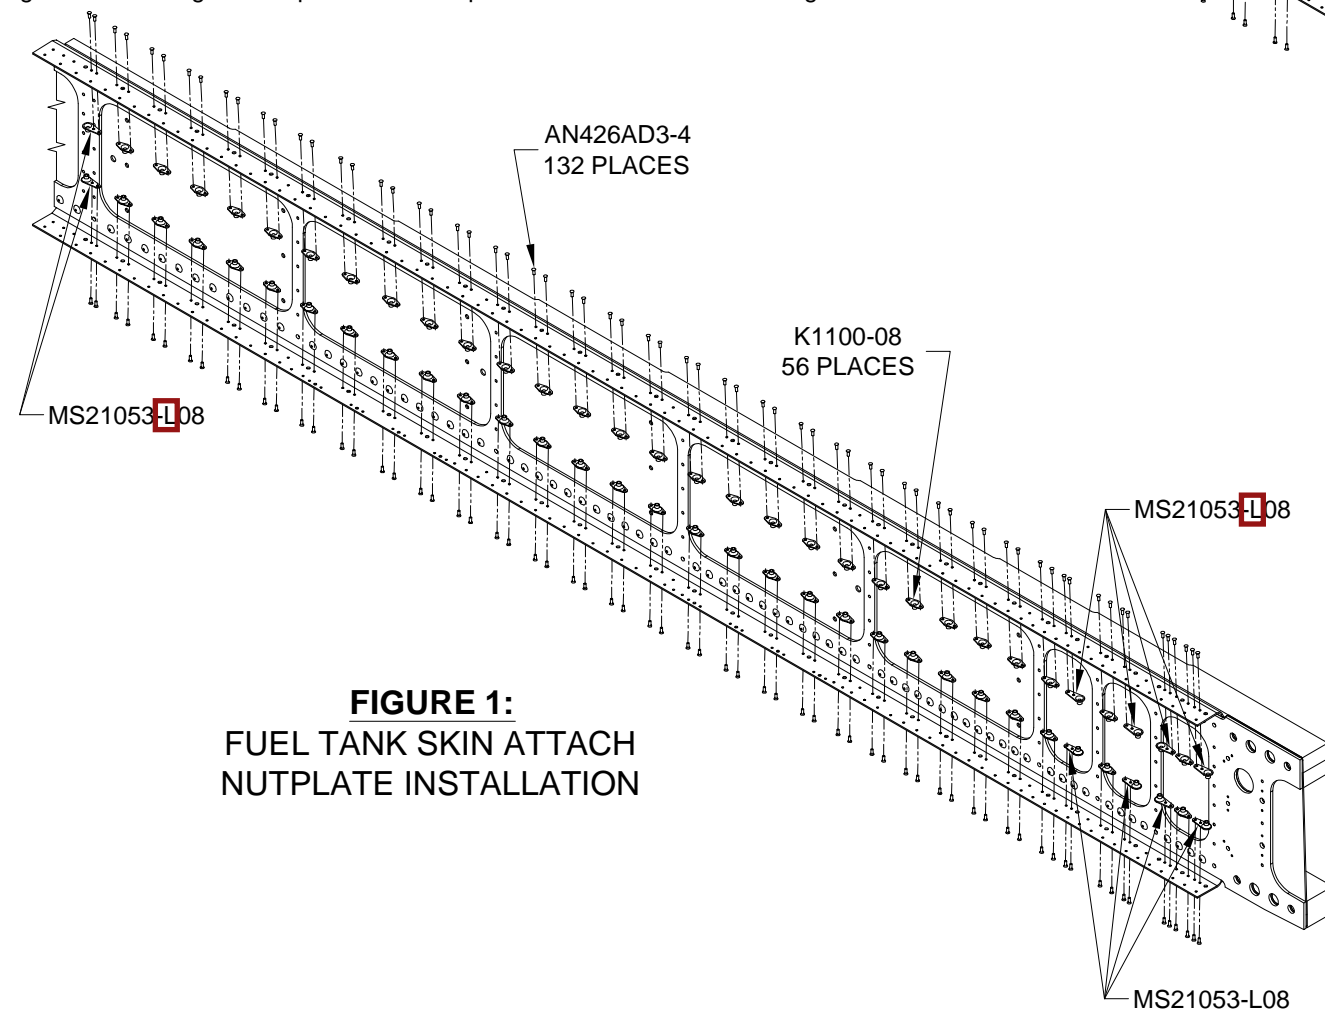

FIGURE 1:
Countersink just deep enough to fit the head of an AN426AD3 rivet. Read Section 5E for more information on countersinking and dimpling. The fuel tank skin attach nutplate locations are shown in Figure 1. The wing access plate attach nutplate locations are shown in Figure 3.
Step 4: Rivet the fuel tank skin attach nutplates to the **W-SPAR ASSY-L** Spar Assembly - Left as shown in Figure 1.